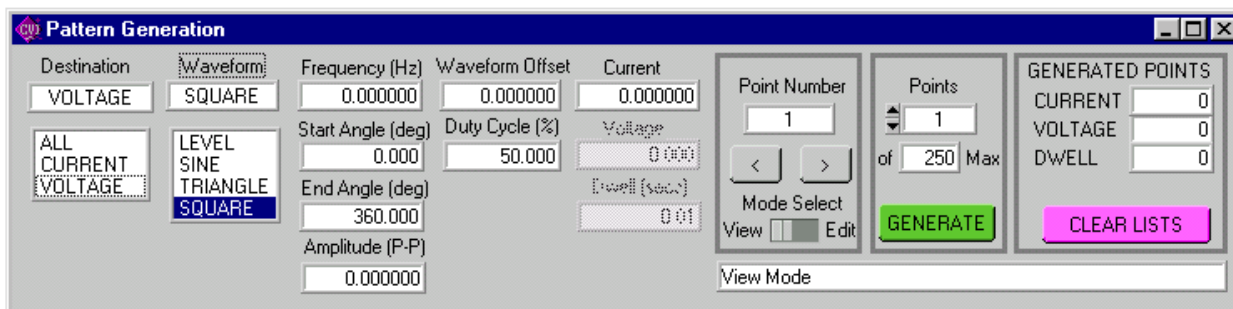
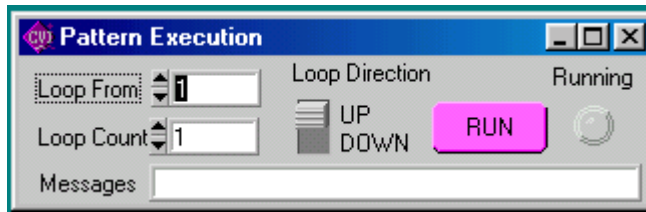

FIGURE 13 PATTERN GENERATION WINDOW
FIGURE 14. PATTERN EXECUTION WINDOW
2.2.10.1 The **Pattern Generator Open** button opens the Pattern Generation Window (Figure 13); the **Pattern Execution Open** button opens the Pattern Execution window (Figure 14).
define additional data points. The EOF defines the end of the pattern. A pattern produced using the Pattern Generation window (Figure 13) can be saved in this format using the **Pattern Export File Select** button.
2.2.10.4 The Pattern Generation window (Figure 13) allows a user-specified program of up to 250 points to be generated. This method of generating complex patterns, allows rigorous testing of a UUT (Unit Under Test), within the boundaries determined by the power supply and the load conditions.
2.2.10.9 **Complex Pattern Generation.** When the **Destination** is set to CURRENT or VOLTAGE, the pattern generator window (Figure 13) can be used to produce a complex waveform. The complex output is built by adding segments from each of the four basic waveform types: LEVEL, SINE, TRIANGLE or SQUARE. Each time the GENERATE button is clicked, the waveform selected is generated using the number of points specified in the **Points Window**. Setting **Destination** set to CURRENT produces a current waveform; a **Destination** of VOLTAGE produces a voltage waveform.
2.2.11 The Pattern Execution window (Figure 14) allows the program established by the pattern generation window to be executed. If the **Loop Direction** is set to UP, the **Loop From** window establishes the point in the loop that will start repeating. For example, if the list is 10 points, and **Loop From** is set to 3, the first 2 points would only be executed once, and the points from 3 to 10 would be repeated the number of times specified in the Loop Count Window. If **Loop Count** is set to 0 the program will run continuously until stopped by the user. The **RUN** button starts the program. While the program is running the **Running** indicator is on and the **RUN** button changes to a **STOP** button used to halt the program. When the program is halted, the unit reverts to the settings in effect prior to issuing the RUN command.